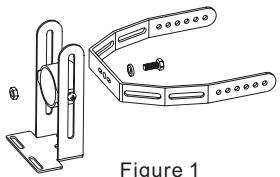

Figure 1
1. Fix the U bracket on the installation bracket with screws, see Figure 1.